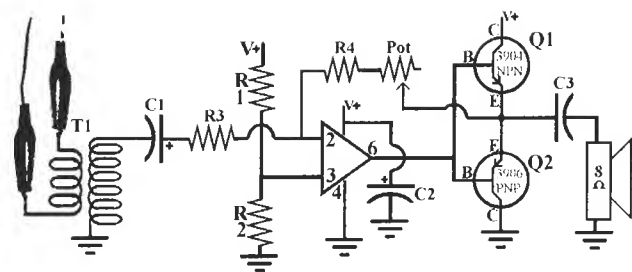

Figure L55-8
1. Insert the audio transformer into the circuit as shown in Figure L55-8.